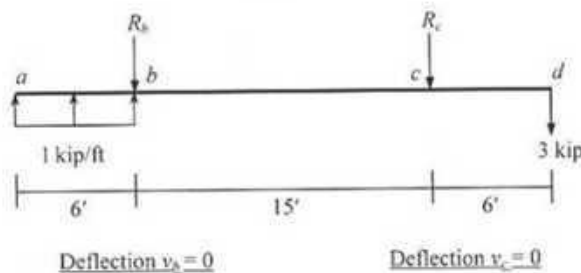

Fig. 6
8. For the beam shown in Fig. 6, use Singularity Functions to calculate the vertical deflection at  $a$  and  $d$  if the deflection at both  $b$  and  $c$  is zero [Given:  $EI = \text{constant} = 80 \times 10^3 \text{ k-ft}^2$ ].